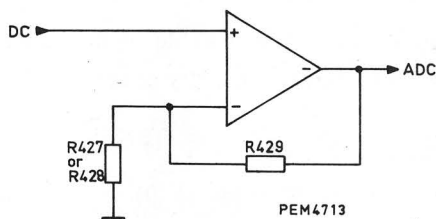

Fig. 12. Operational amplifier circuit
8. Operational amplifier (Fig. 12)